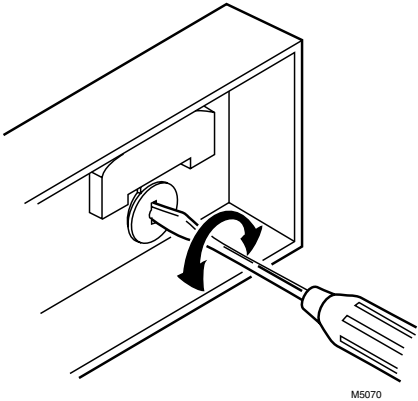

Fig. 16. Thermometer calibration.
- 4 Insert a small screwdriver in the thermometer shaft (Fig. 16) and turn it until the thermometers read the same. When the thermometer is calibrated, replace cover and place into operation.